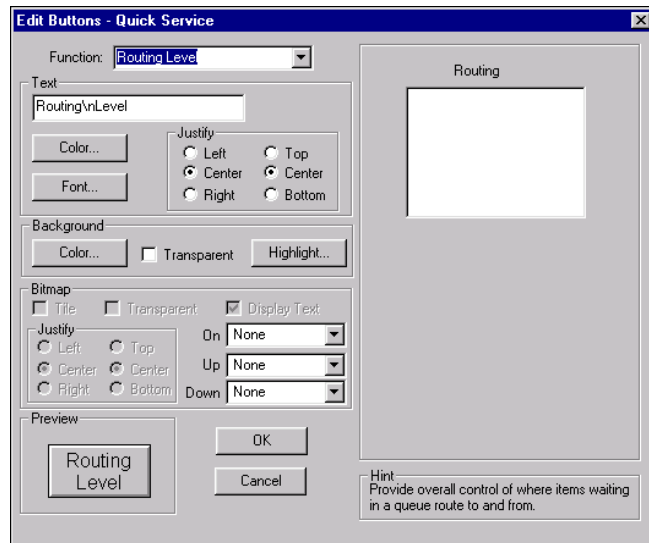

Figure 5-101 Routing Level Function Button
1. Select **Routing Level** from the **Function** drop-down list. An additional option displays, as shown in Figure 5-101: